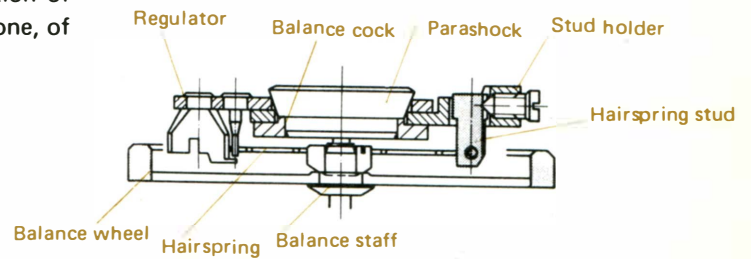

Fig. 2
When the crown is pulled out to the time setting position (C), the stop lever coupled to the yoke moves in the arrow direction and as the stop lever spring stops the fourth wheel, the second hand stops at an optional position (Fig. 2).